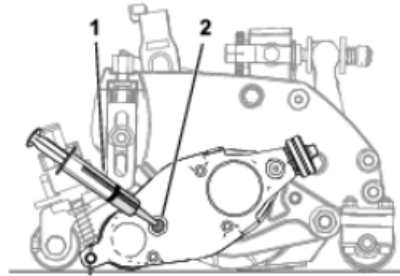

Figure 2
11. Use a syringe (Part No. 137-0872) to fill the drive box with 50cc of 80–90W oil. (Figure 2)